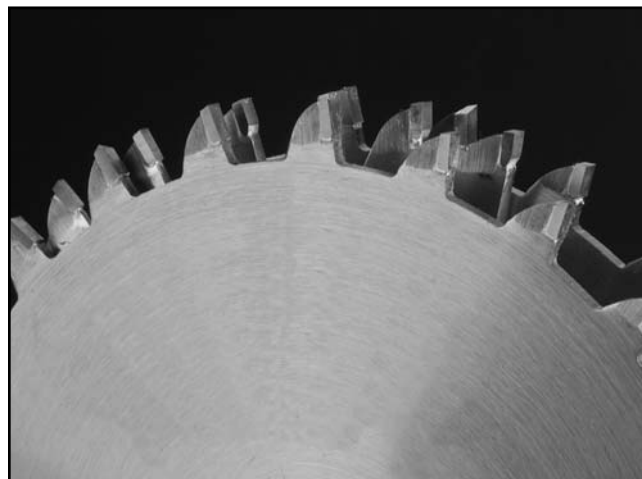

Figure 28. Optional dado blade.
- **Stacked Dado Blade**—These dedicated dado cutting blades consist of a set of up to 8 individual blades. Multiple cutters are "stacked" between two outside blades. The width of the dado is determined by the combination of cutters that are "stacked" together. The dado is cut in a single pass leaving a smooth and square channel in the face of the workpiece as shown on **Page 31**. Stacked dado blades are the most expensive option but are worth considering if your projects require a lot of visible dado cuts. A typical stacked dado blade is shown in **Figure 28**.
Commonly used in furniture joinery, a dado is a straight channel cut in the face of the workpiece. Dadoes can be cut using either a dado blade (Figure 28) or a standard saw blade.